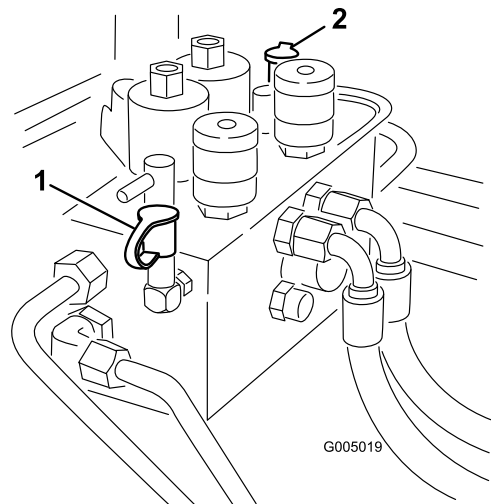

Figure 78
2. Test Port B (Figure 78) is used to assist in trouble shooting the hydraulic circuit for the front cutting units.
3. Test Port C (Figure 78) is used to assist in trouble shooting the hydraulic circuit for the rear cutting units.